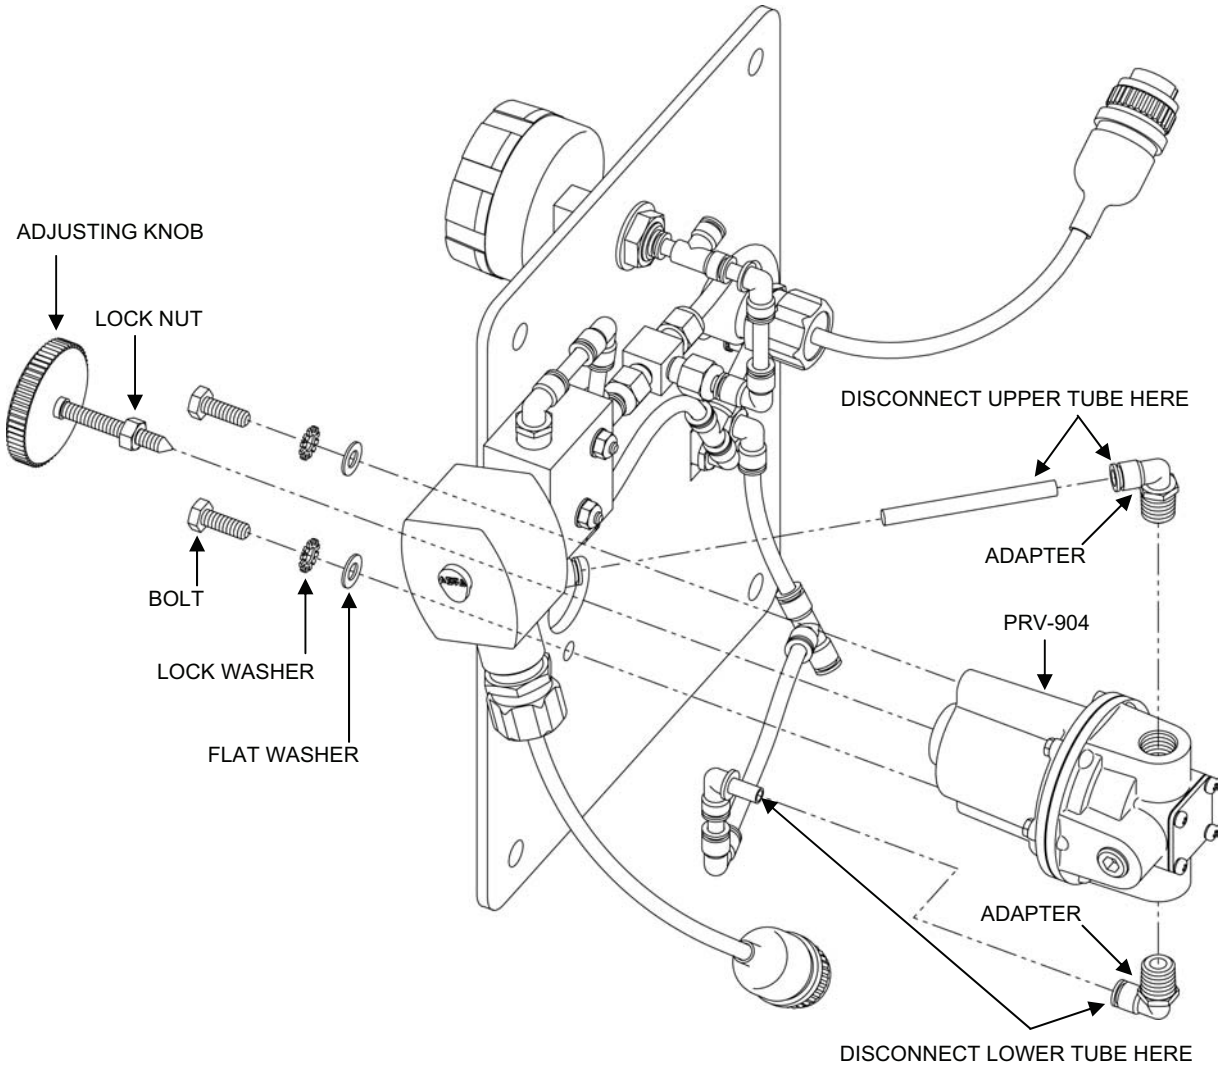

Figure 3. Pressure Regulating Valve PRV-904.
1. Remove Pressure Regulating Valve PRV-904 from the feed flow control panel assembly as follows (see Figure 3):